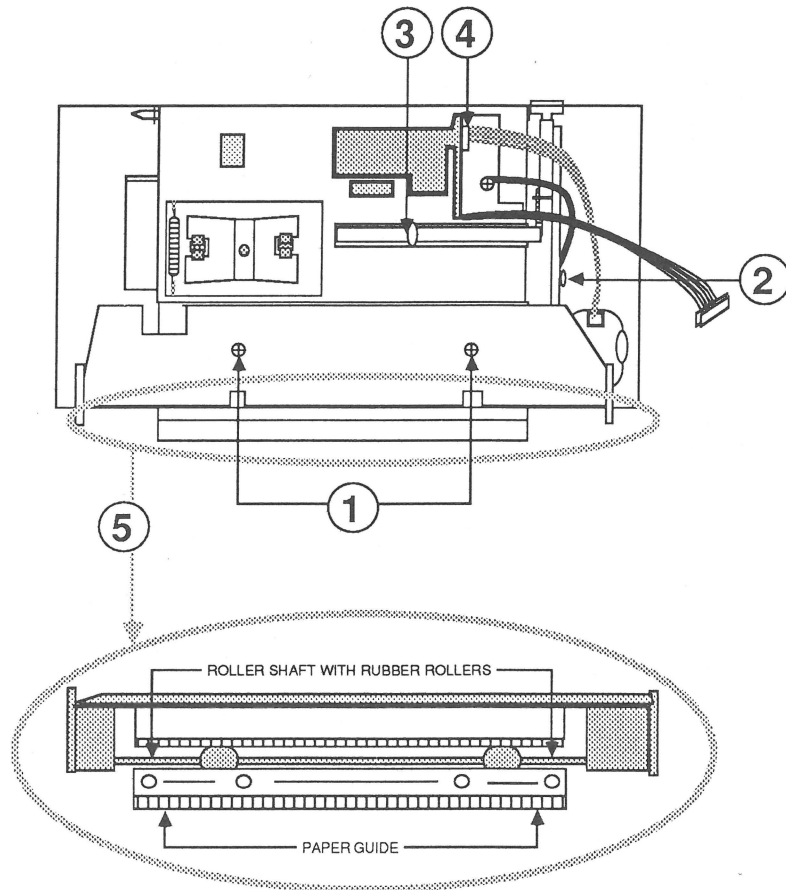

FIGURE 4
6. Remove the paper guide (Figure 4, #5), which is snapped into place.
7. Lift the entire metal frame assembly off of the plastic housing (see shaded area in Figure 4, #5).
1. Position the metal frame assembly on the plastic housing. Line up the screw holes, and be sure the paper release button is inserted in the back of the plastic housing. Replace the two screws (Figure 4, #1).
2. Position the paper guide (Figure 4, #5) and snap it into position.
3. Plug in the connector (Figure 4, #4).
4. Replace the lever lock and attach the armed end to the spring (Figure 4, #3).
5. Replace the grounding strap and screw (Figure 4, #2).